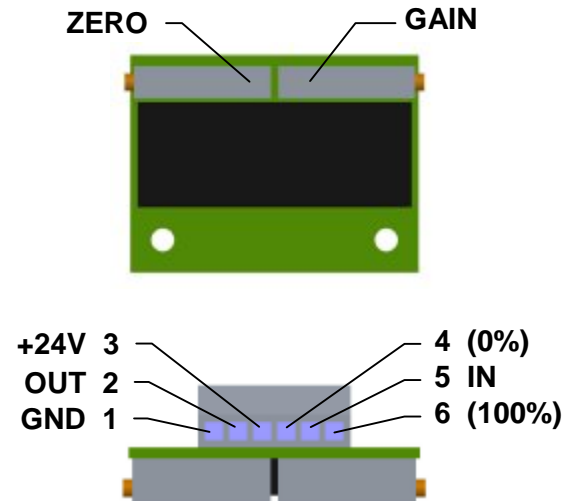

Fig.11
4.5.2 EPV – 3-wire version (Fig. 11)